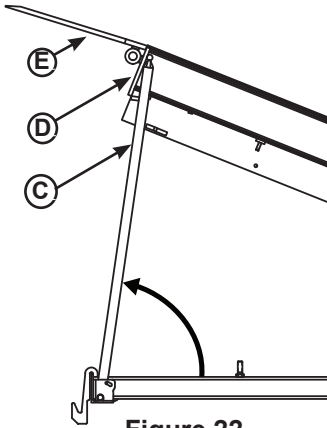

Figure 22
Whenever maintenance is to be performed under the dock leveler platform, support the platform with maintenance prop (C). Position the maintenance prop behind front header plate (D) while staying clear of the lip plate (E). The lip plate will fold down after the platform has rested on the maintenance prop. Lock the maintenance prop in the service (upright) position using an OSHA approved lockout device\* (B) and tag out device\* (A). See Figures 22 and 23.